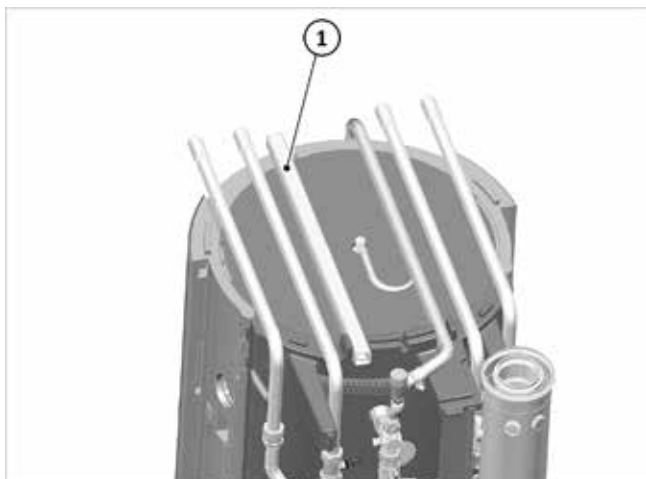

Fig. 98: Cable routing duct
1. Route the Modbus line of the junction box through the cable routing duct → Fig. 98 (1) in the cover area.